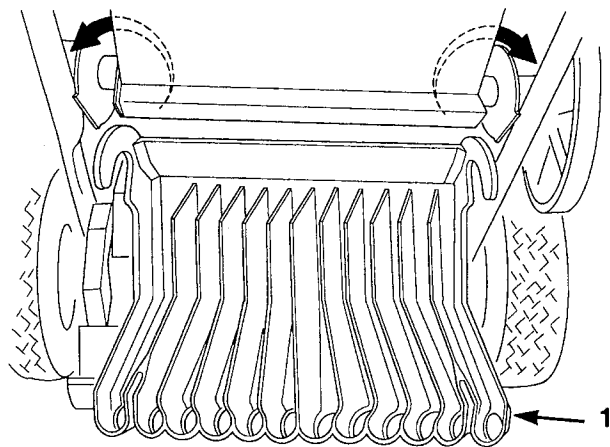

Figure 85
5. Install the chute (Fig. 85). Notice that the chute has a hook at both sides.
3. Rotate the chute up and slide it forward to disengage the hooks from the axle (Fig. 85).